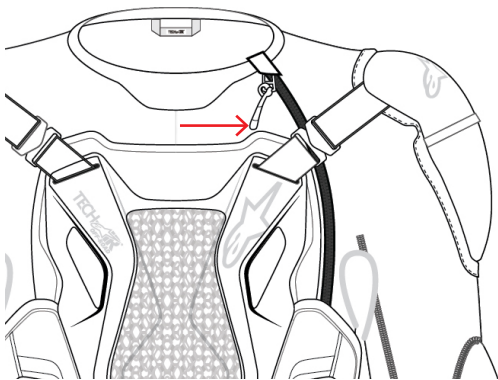

Figure 8: System switch on with the closure of the Activation Zip (1)
To use the Tech-Air[®] Off-Road System, the User has to simply put on/wear the System and close the Activation Zip (1) from the bottom to the top (Figure 8).